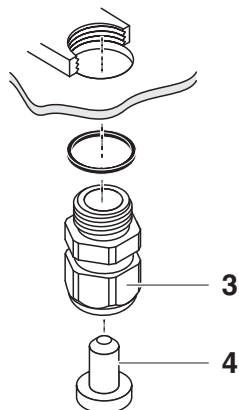

Fig. 3-16 Closing the cable opening
- 10 | Screw the remaining cable glands with the sealing rings into the remaining free openings and close them with the enclosed blind plugs (pos. 4 in Fig. 3-16) and tighten the coupling ring (pos. 3) if they are not used.